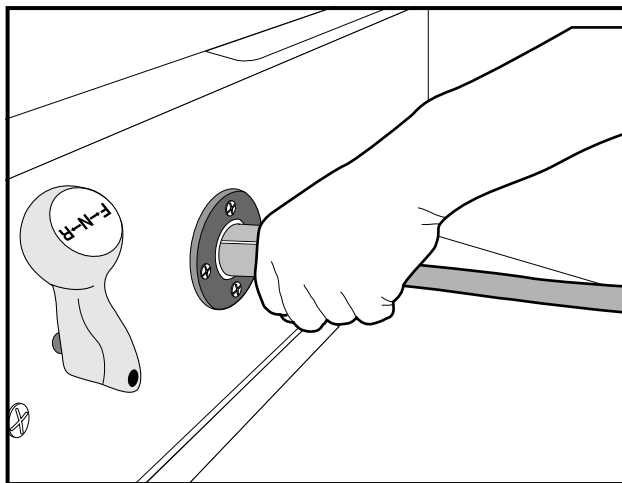

Figure 13 Correct Insertion of Charger DC Plug
- DO NOT ROCK OR BEND THE PLUG. TO CONNECT THE CHARGER PLUG TO THE VEHICLE RECEPTACLE, GRASP THE PLUG HANDLE AND PUSH THE PLUG STRAIGHT INTO THE RECEPTACLE (**FIGURE 13, PAGE 22**).
Insert the charger DC plug into the vehicle receptacle. The charger will turn on two to ten seconds later (**Figure 13, Page 22**).